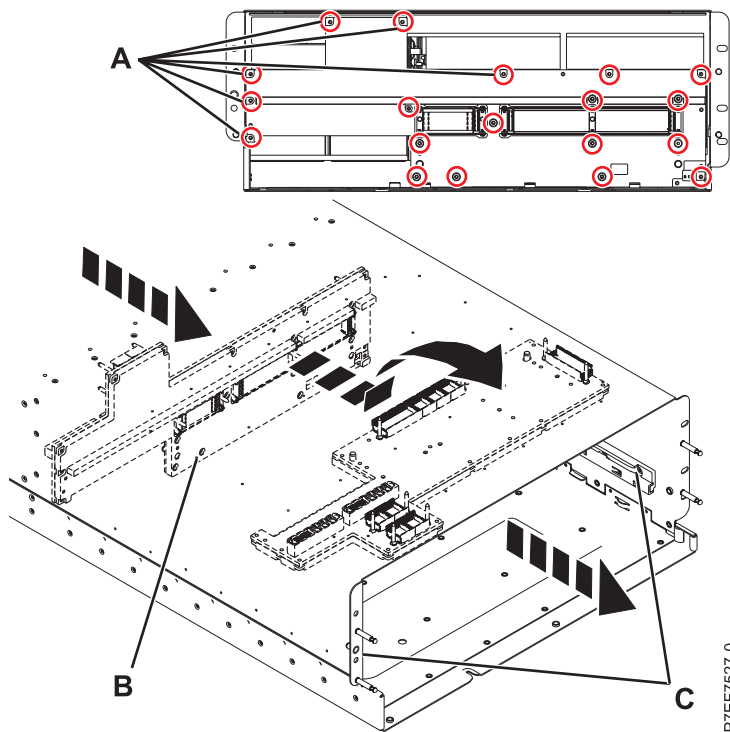

Figure 2. Removing the midplane
- a. From the front of the system, loosen all 17 captive screws (A). See Figure 2.
- b. Grasp the midplane and start pulling it out, and then rotate the bottom of the midplane (B) upward and the top of the midplane toward the front of the system.
- c. With the midplane raised above the guide rails (C), carefully remove the midplane from the system while making sure to not hit the guide rails.